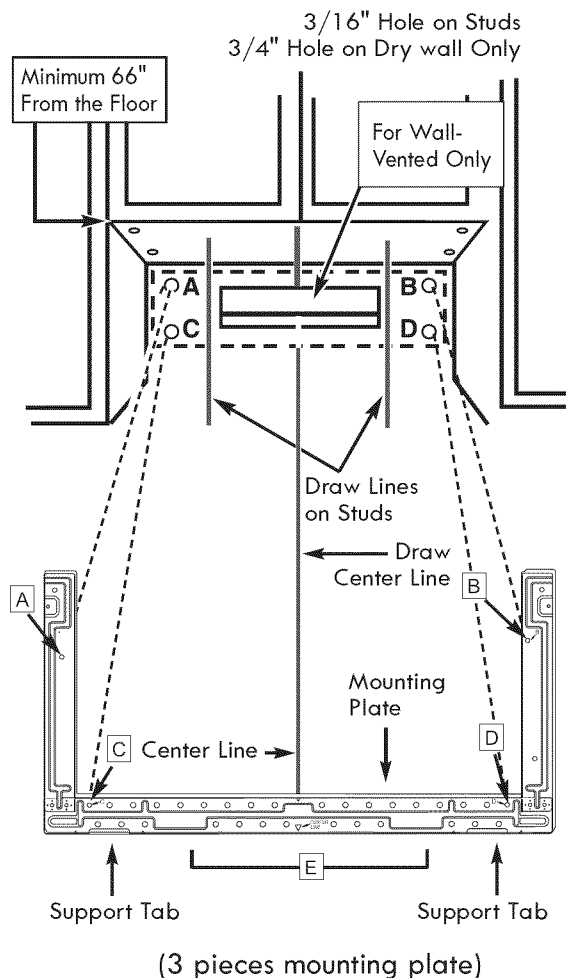
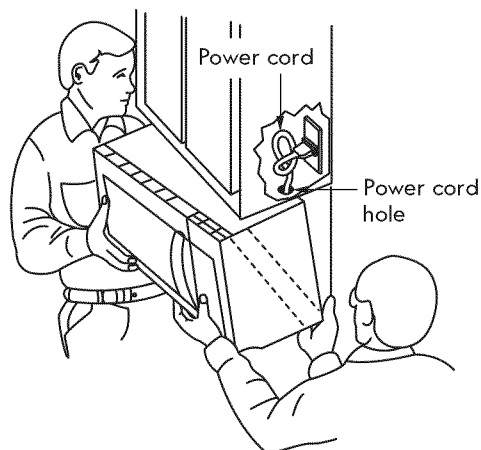

Figure 26
Figure 30
2. While holding the mounting plate with one hand, draw circles on the wall at holes "A", "B", "C" and "D". Four holes must be used for mounting. If the holes are not used, the installation will not be secure. Installer must use these holes for proper installation. Use toggle bolts through these holes unless one of them lines up with a stud. Use a wood screw for studs. See Figure 26.
1. Carefully lift microwave oven and hang it on support tabs (See Figure 26) at the bottom of the mounting plate. Reaching through upper cabinet, thread power supply cord through the power supply cord hole in the bottom of the upper cabinet. See Figure 30.